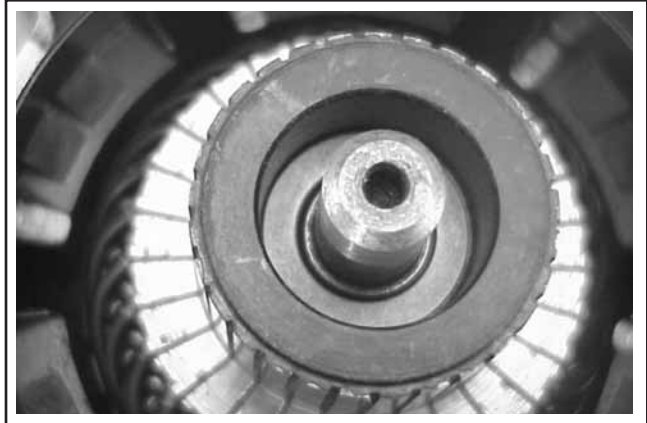

Figure 7-60. Installing Thrust Washer.
9. Install the flat thrust washer onto the commutator end of the armature shaft. See Figure 7-60.